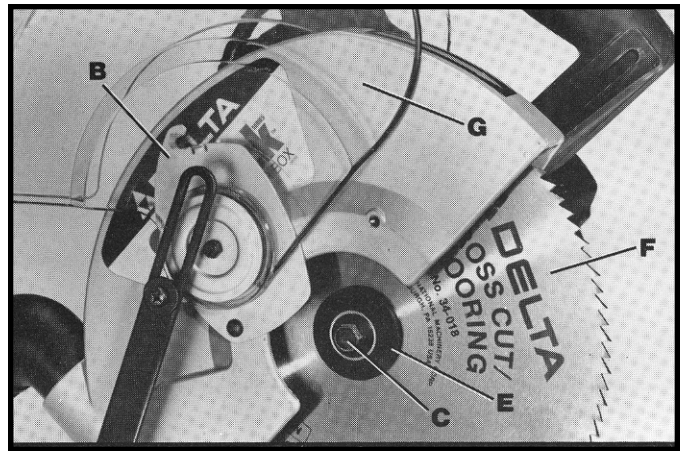
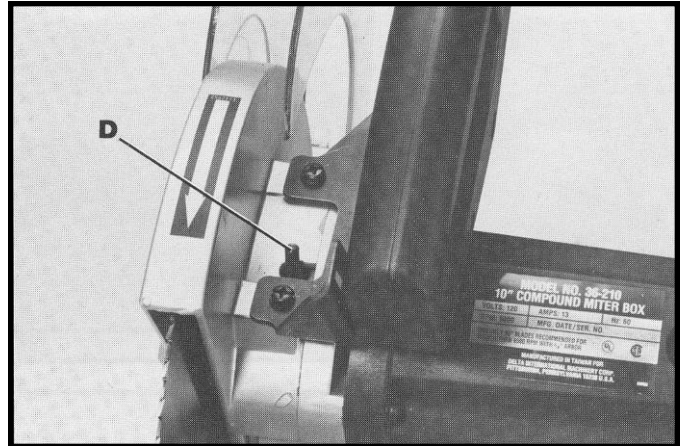

Fig. 48
Fig. 49
3. Rotate arbor cover (B) Fig. 48, and lower guard (G) to the rear, exposing arbor screw (C), as shown.
4. Remove arbor screw (C) Fig. 48, by turning screw clockwise with wrench supplied while at the same time pressing in on arbor lock (D) Fig. 49, to keep the arbor from turning. Remove outside blade flange (E) Fig. 48, and saw blade (F). DO NOT REMOVE INSIDE BLADE FLANGE.
5. Assemble new saw blade MAKING CERTAIN TEETH OF SAW BLADE ARE POINTING DOWN AT THE FRONT, AS SHOWN and assemble outside blade flange (E) Fig. 48, making sure flats on outside blade flange are engaged with flats on arbor shaft.
6. Thread arbor screw (C) Fig. 48, into saw arbor by turning screw (C) counterclockwise as far as possible by hand. Then tighten arbor screw (C) with wrench supplied while at the same time pressing in on arbor lock (D) Fig. 49, to keep arbor from turning.
7. Rotate arbor cover (B) Fig. 48, and lower guard (G) to the front and replace screw that was removed in STEP 2.